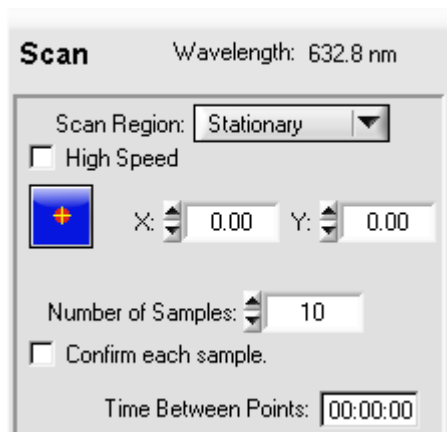

Figure 4.12 Automatic Scan Panel for Stationary Scans
1. Select **Stationary** from the drop-down menu under **Scan Region**. The scan control now looks like Figure 4.12 below.